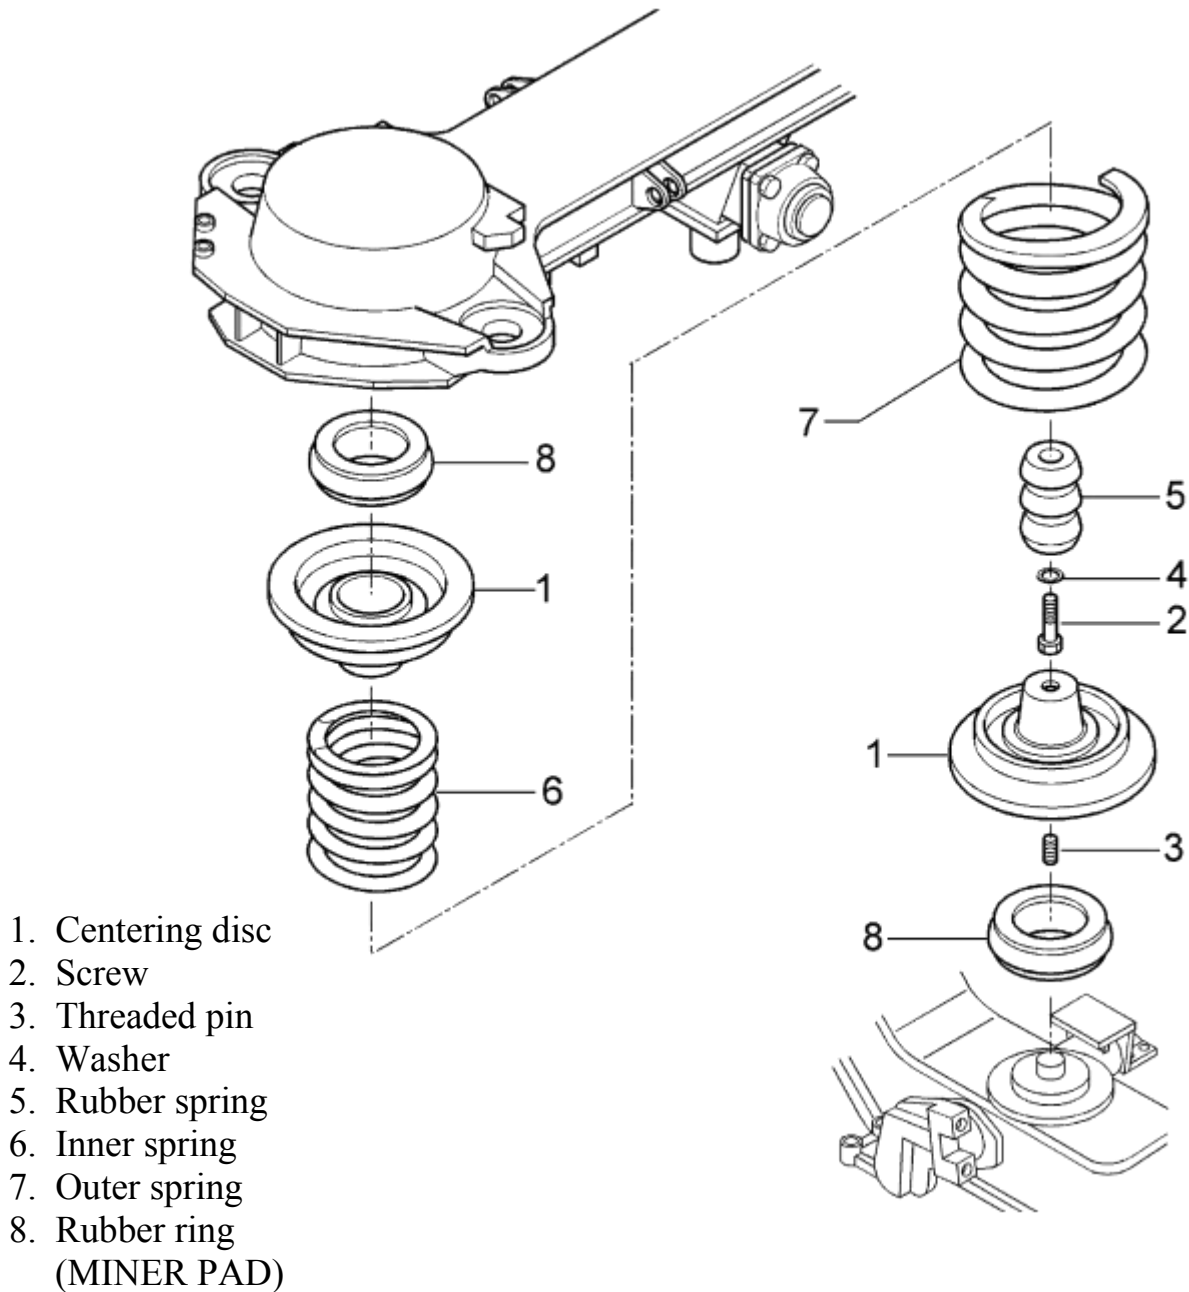

FIG. 4.27 Springs Pack Dismounting
The spring packs (FIG. 4.27) of the secondary suspension can then be dismantled in the following manner: remove the upper rubber ring (8). Remove the upper centering disc (1) together with the rubber spring (5), the washer (4) and the screw (2). Extracting the screw (2) it is possible to separate items (1), (2) and (5). Then it is possible to remove the inner spring (6), the outer spring (7). Extract the threaded pin (3) in order to remove the lower centering disc (1) and the lower rubber ring (8). Then put the bolster beam on two supports.